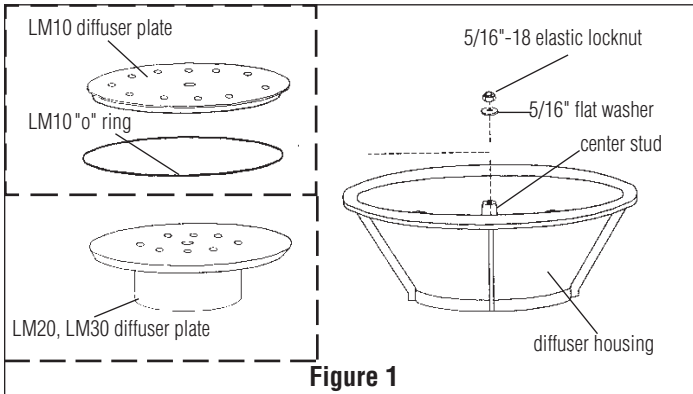

Figure 1
A. Pull screen over motor unit and support arms until it reaches the first ridge on the float -- see figure 1.
B. Make sure the cord/cords are running through the cord trough where the float arms fit into the float (choose one cord trough for all of your cables - see figure 1-#1). Pull approximately two inches of the screen past the Mounting Ring. This is to insure that all of the cord troughs are adequately covered.
C. Fasten the screen to the float with the washers and screws provided. Fasten one screw and one washer on both sides of each cord trough-see figure 1-#1.
D. Screw the remaining screws and washers through the screen into float between the cord troughs - three places --see figure 1-#2.
(1) Cord troughs are located on the float where the support arm meets the float. Fasten one screw and one washer on both sides of each cord trough (use six screws and six washers).
(2) Place a washer and screw between each cord trough (three screws and three washers).
1. With the unit standing upright, remove the locknut and washer from the stud in the diffuser plate. Grab the outer edge of the diffuser housing and remove. See Figure 1.